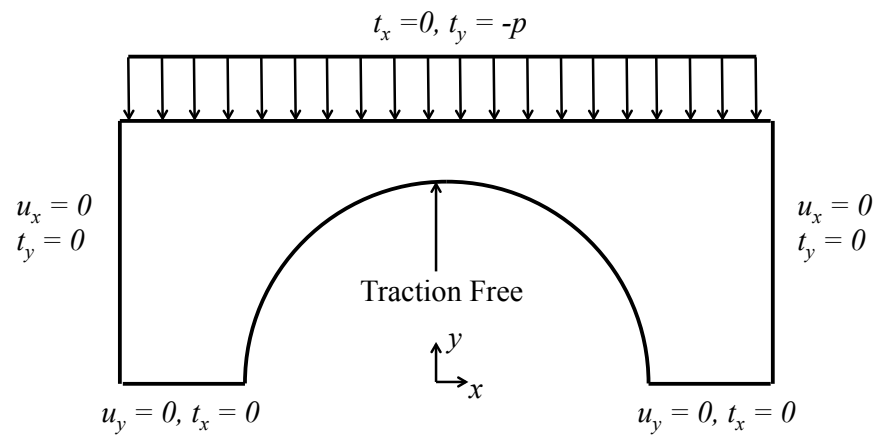

Figure 4: Boundary condition specification for Problem 4 Part 2.
*Part 2:* Now assume that the left, right, and bottom surfaces are on “rollers” and the tunnel opening is non-pressurized. Then the resulting boundary condition specification is as depicted in Figure 4. Solve the resulting linear elasticity problem using the MATLAB function `Linear_Elasticity` you wrote for Problem 1. Plot both components of the resulting displacement field and the von Mises stress field over the deformed physical geometry using the MATLAB function `Plot_Elasticity` you wrote for Problem 2. As in Part 1, determine the maximum von Mises stress in the arch, and compare your results with the results of Part 1.